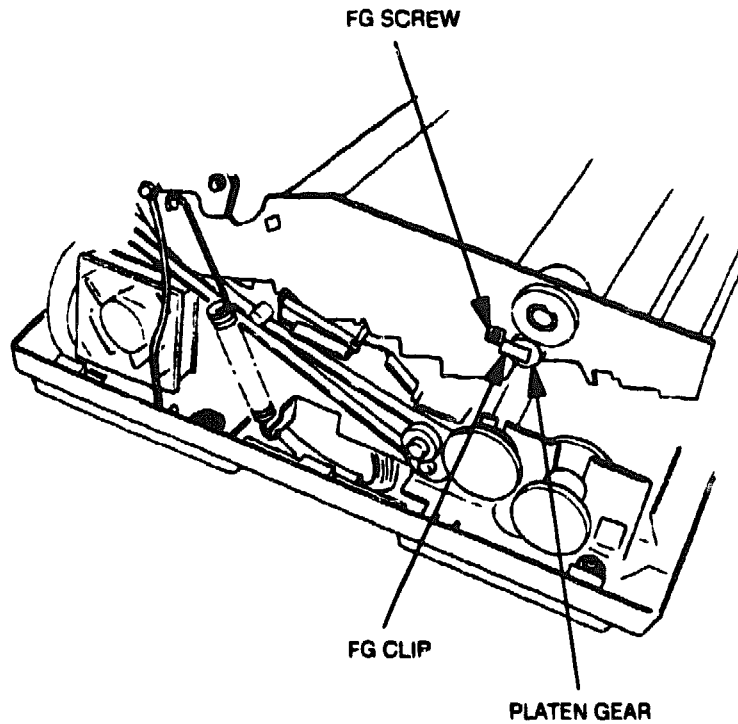

Figure 6-47 FG Clip and Platen Gear
9. Loosen the screw shown in Figure 6-47 that secures the FG clip to the upper unit (L) frame. Move the clip away from the gear mounted on the platen unit shaft (see Figure 6-47).
10. Using a 1.5 mm allen wrench, loosen the two set screws that secure the gear on the upper unit (L) frame and remove the gear from the platen shaft. Then remove the support bearing that secures the platen shaft to the upper unit (L) frame.